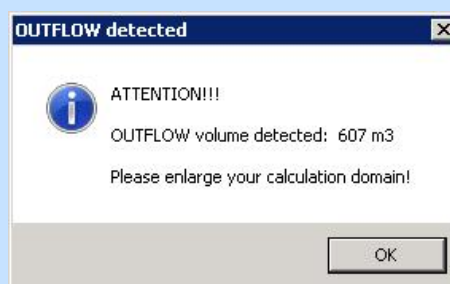

Figure 4.34: Outflow volume alert.
- If mass flows out of the calculation domain, RAMMS shows an alert. (Fig.4.34). To get reliable results you should enlarge your calculation domain. (See section 4.5.2)